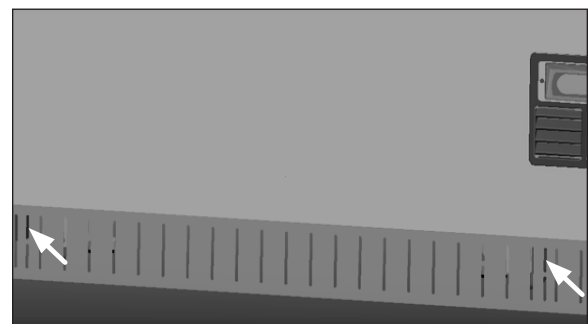

Fig. 5 Front kickplate install
7. Install the front kickplate (Fig 5). The specification of the screw is the same as that mentioned above. Fix the right side first.